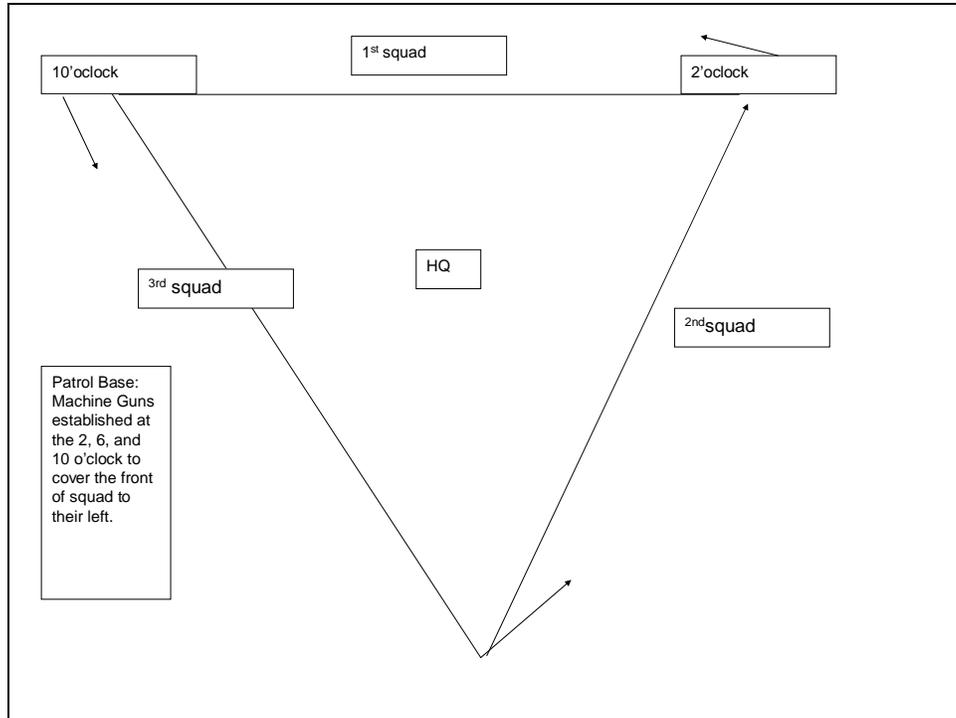

Figure 1: Standard Patrol Base
- (1) Observation posts and communication with observation posts.
- (2) Patrol or platoon fire plan.
- (3) Alert Plan.
- (4) Withdrawal plan from the patrol base to include withdrawal routes and a rally point, rendezvous point, or alternate patrol base.
- (5) A security system to make sure that specific soldiers are awake at all times.
- (6) Enforcement of camouflage, noise, and light discipline.
- (7) The conduct of required activities with minimum movement and noise.
- (8) Priorities of Work.
d. Occupation (Figure 1).
(1) A PB is reconned and occupied in the same manner as an ORP, with the exception that the platoon will typically plan to enter at a 90 degree turn (this is METT-TC dependent; if there is nothing to be gained by this step, the patrol does not do it). The PL leaves a two-man OP at the turn, and the patrol covers any tracks from the turn to the PB.
(2) The platoon moves into the PB. Squad-sized patrols will generally occupy a cigar-shaped perimeter; platoon-sized patrols will generally occupy a triangle-shaped perimeter.
(3) The PL and another designated leader start at 6 o'clock and move in a clockwise manner, inspecting and adjusting the perimeter as necessary.
(4) After the PL has checked each squad sector, each SL sends a two-man R&S team to the PL at the CP. The PL issues the three R&S teams a contingency plan, recon instructions, and detailed guidance on what to look for (enemy, water, built-up areas or human habitat, roads, trails, or possible rally points).
(5) Each R&S team departs at the left flank of its squad, moves a prescribed distance and direction, and reenters at the right flank of its own squad.
(6) Squad-sized patrols do not normally send out an R&S team at night.
(7) R&S teams will prepare a sketch of the area to the squad front if possible.
(8) The patrol remains at 100 % alert during this recon.
(9) If the PL feels the patrol was tracked or followed, he may elect to wait in silence at 100 % alert before sending out R&S teams.
(10) The R&S teams may use methods such as the "I", the "Box", or the "T". Regardless of the method chosen the R&S team must be able to provide the PL with the same information.